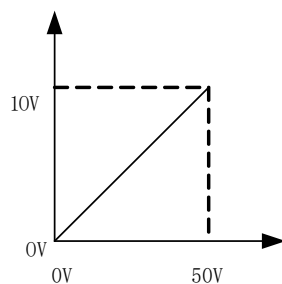

Figure 4-9 Signal equivalent circuit
5. The corresponding relationship between actual set voltage value of welding machine in separate mode and the analog receiving value of welding machine, as shown in Figure 4-9;